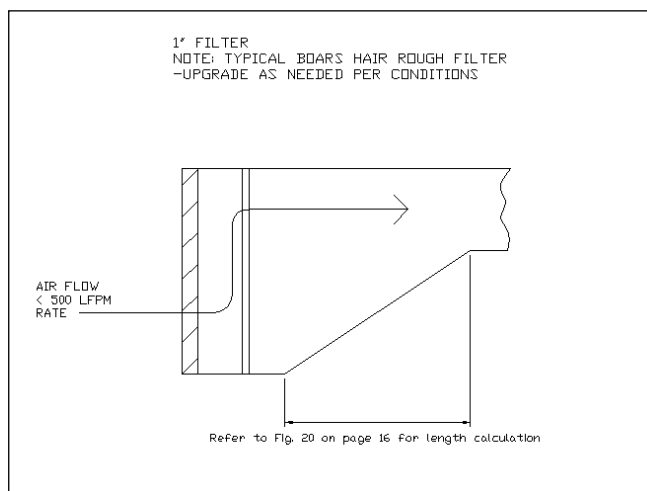

Figure 18 Recommended Louver Dimensions and Characteristics (side view)
Figure 18 shows the side view of the louvered intake connected to the fresh air intake duct. There should be a flow of less than 500 fpm, or the maximum amount of air flow needed to eliminate water droplets being pulled in through the fresh air intake. See manufacturer's instructions for specific installation guidelines. *Note: Clips, fasteners, and additional hardware must be supplied by your local contractor.*
**Note:** It is recommended that there be a minimum of 10 feet of separation, or the minimum required by code (whichever is higher), between points 1-(Fresh Air In) and 4-(Exhaust Air Out) in order to prevent cross contamination between the air streams. Installing hoods and/or an inlet screen are necessary to protect the duct openings from rain and animals. See Figure 18 for a detailed drawing of the louvered intake.